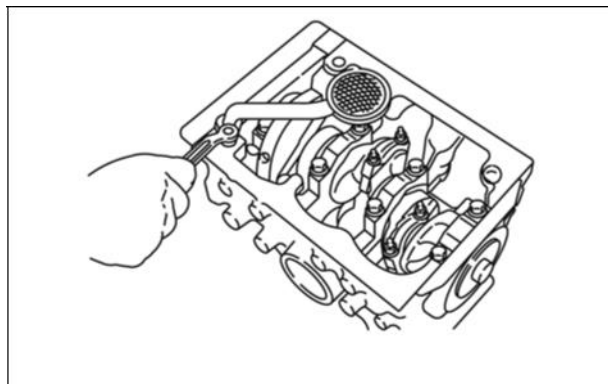

Figure 7
1. Install gasket, oil pick-up tube and strainer (Figure 7). Torque screws to values listed in Section 14 - Engine Specifications.